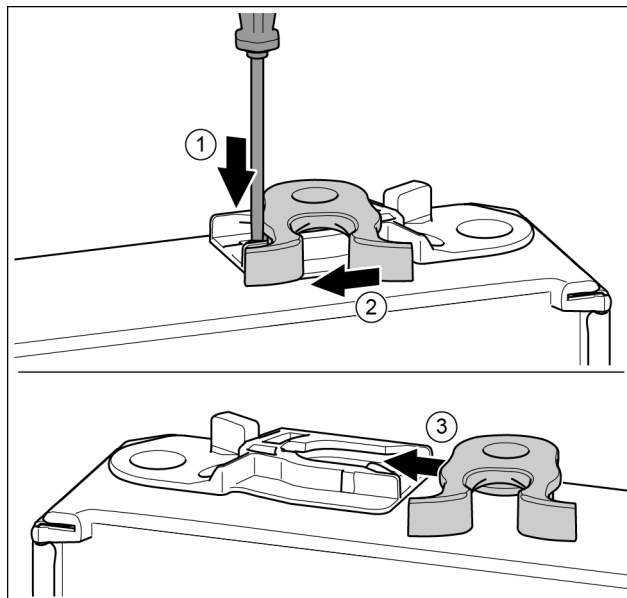

Fig. 18
- Push the tab downwards with a slotted screwdriver. Fig. 18 (1)
- Pull the door latch out of the guide. Fig. 18 (2)
- Push the door latch into the guide on the other side. Fig. 18 (3)